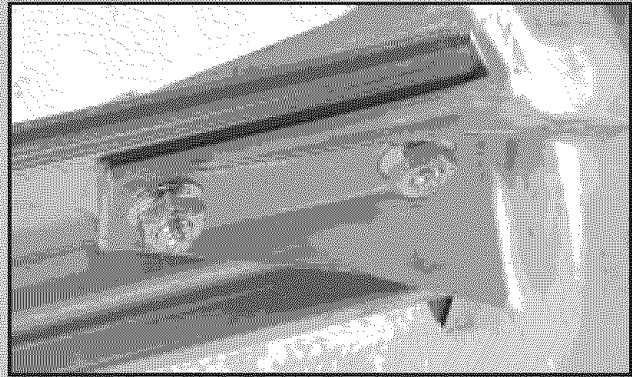

Fig. 1-5
- Secure “first” rail section with 2 bolts [4] and 2 nuts [5], hand tight only. **Fig. 1-5.**